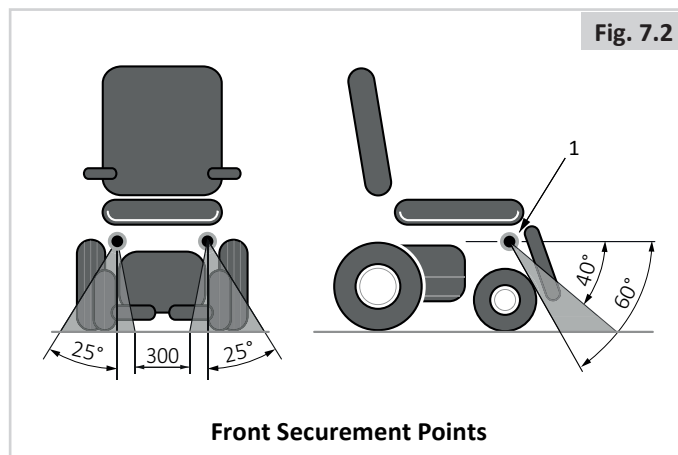

Fig. 7.2
- It is recommended to use with a 4-point strap restraint system rated for the total weight of the wheelchair including any options (Heavy Duty System) - 2 at the front, 2 at the back (Fig. 7.2 & 7.3) that conforms to ISO 10542-1 (international).
Recommended angles for Tie-Down straps (Fig. 7.2 - 7.3).